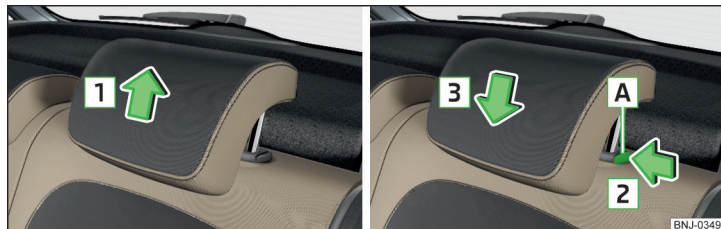

Fig. 74 Setting the height of the back headrest
- Grasp the headrest and move **upwards** in the direction of arrow **1** » Fig. 74.